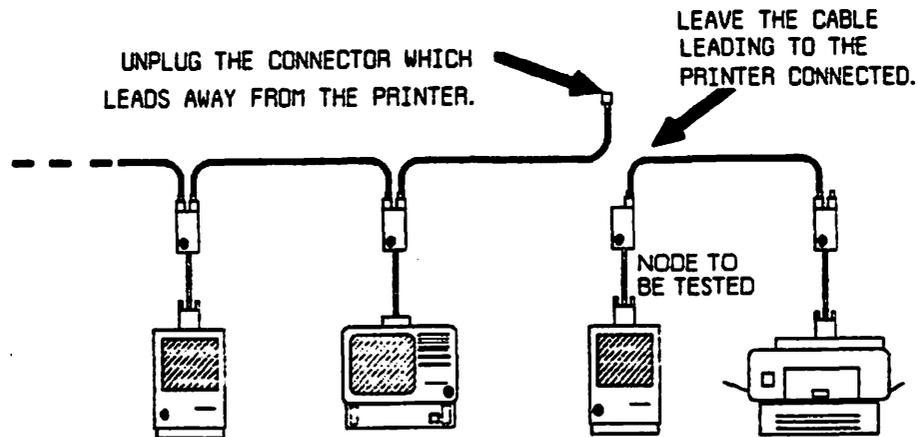

FIGURE 2
2. FIND THE FIRST NODE NOW CONNECTED TO THE PRINTER. FIND THE NODE'S APPLETTALK CONNECTOR. UNPLUG THE NETWORK CABLE FROM THE NODE'S APPLETTALK CONNECTOR WHICH LEADS AWAY FROM THE PRINTER. LEAVE THE CABLE GOING TO THE PRINTER CONNECTED (SEE FIGURE 2 ON PAGE 21).
Figure 2 is referred to by Sheet 1 of the ALL NODES flowchart.